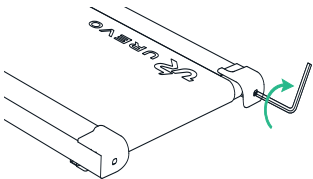

Figure 1
- If the walk belt has shifted to left, use the hex tool to turn the left idler roller screw clockwise **1/4** of a turn (refer to figure 1).